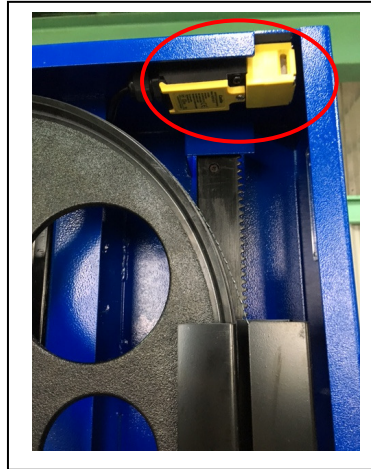

Figure 14
1. Limit switch (see Figure 14) inside the machine body for cutting off the power while door opening during operation.